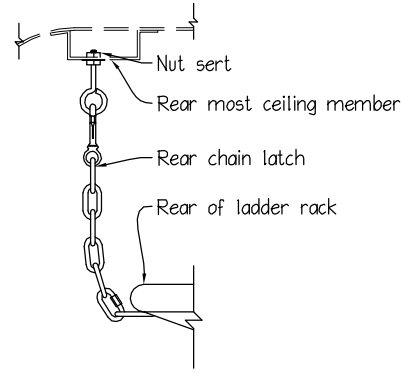

FIG. 1 - Side View
1. Locate center of top door frame at rear of van. Choose an area that is toward the front of van on this frame to drill a 7/16" hole. Be sure not to hit any obstructions or outer roof skin when drilling thread insert holes. This is where the rear chain latch will be mounted. Insert a nut sert into this hole. Thread eyebolt into nut sert approximately 1" and draw up jam nut to lock in place. Be sure rear doors close properly and do not hit this eyebolt. (See Fig. 1)